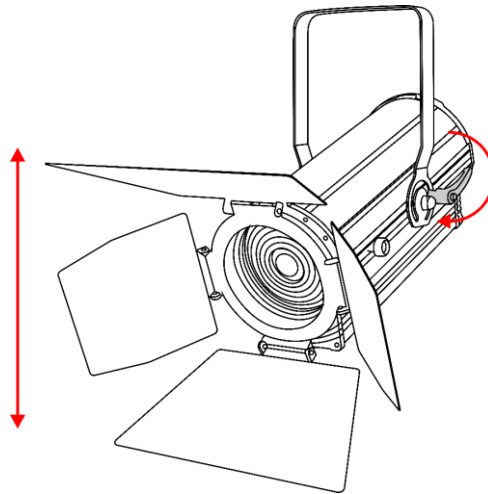

Fig. 10
- 01) Turn the **adjustment handle (06)** counterclockwise to loosen it.
- 02) Tilt the device to the desired angle (see Fig. 10).
- 03) Turn the **adjustment handle (06)** clockwise to tighten it.